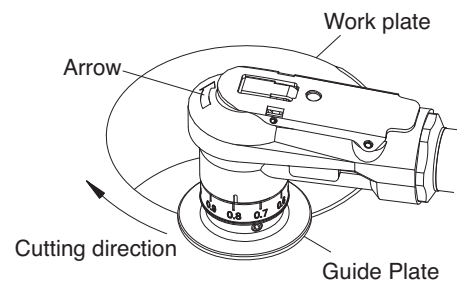

Fig.11
- (1) Hold the tool firmly, release the lock lever, and depress the throttle lever to start the tool.
- (2) Place the Guide Plate on the workpiece, and slowly pull the tool towards you or push it forward to introduce the indexable inserts to the material.
- (3) While holding the Guide Bearing against the workpiece, move the tool in a clockwise motion. (Fig.11)